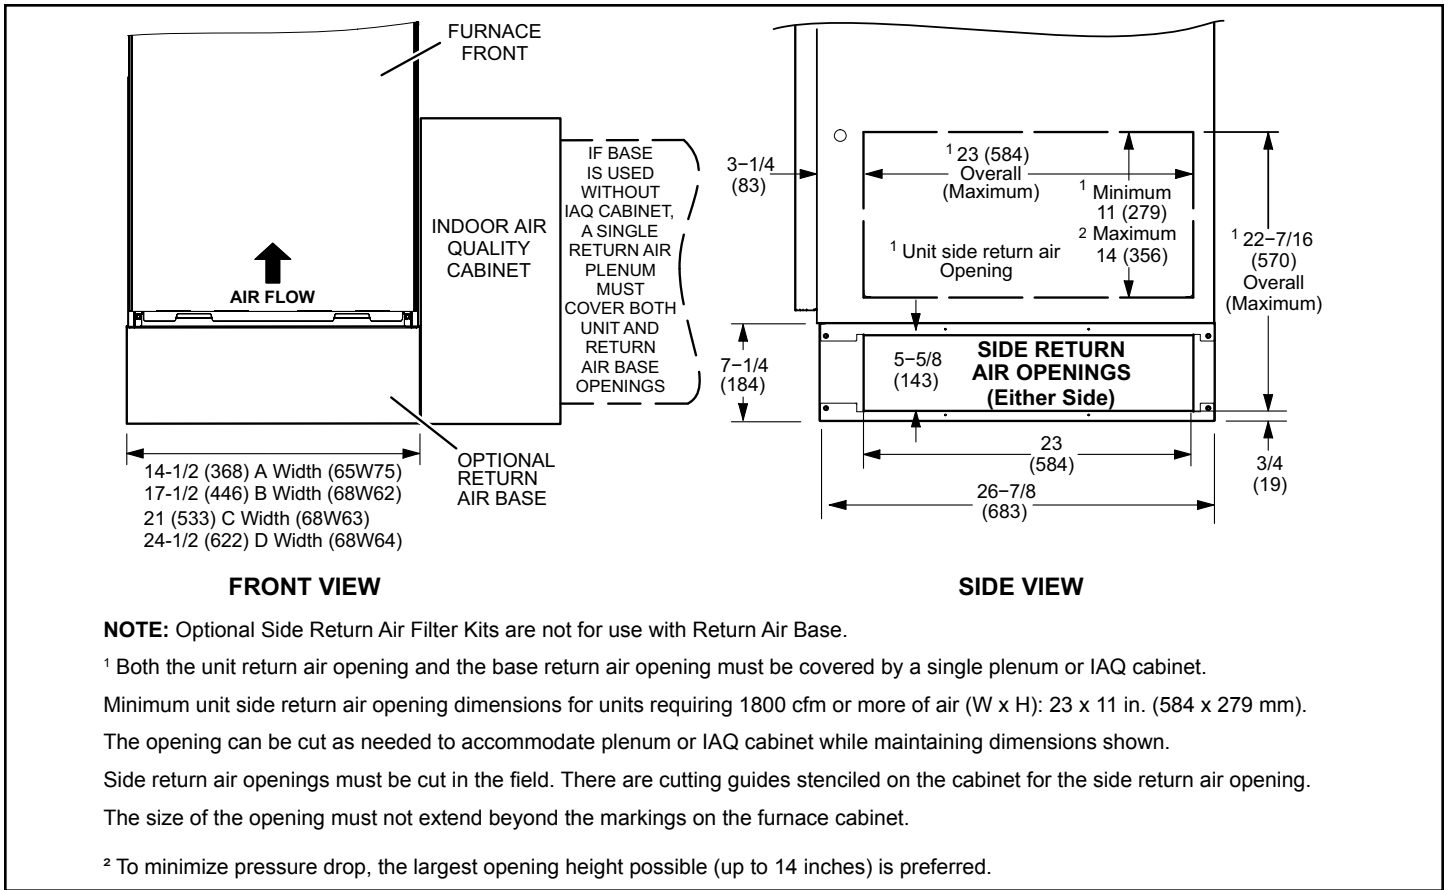

Figure 10. Optional Return Air Base (Upflow Applications Only - For Use with A, B, C and D Cabinets)
2. Single side return air with optional return airbase. See Figure 10.